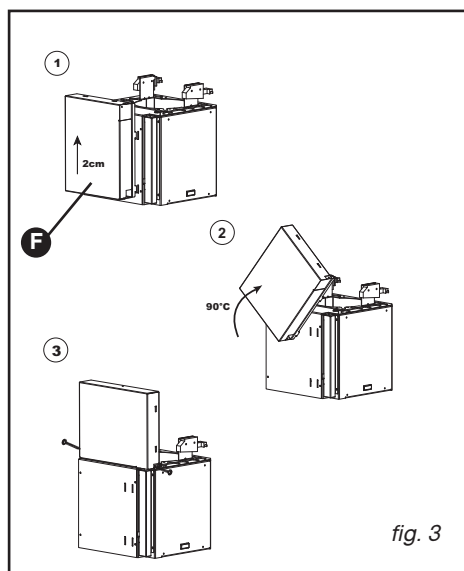

fig. 3
– Remove the adhesive tape from the component unit (F/fig. 3).
– Lift the unit around 2 cm then release it. Give it a quarter turn then slide it and fasten it using 2 screws above the motor (fig. 3).
– If a 125 mm flue is being installed, use the adapter provided (fig. 3). If the diameter of your exterior flue is less than 125 mm, you must connect your hood in recycling mode.